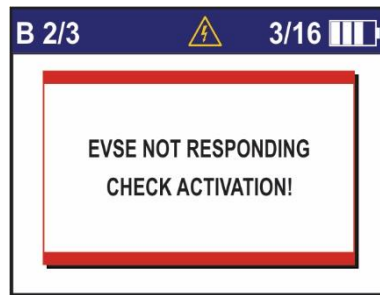

Figure 19: Check activation warning
The measurement starts with simulating the state B (EV connection to EVSE). The CST-322 Tester then waits for charging station to respond and measures a response time $t_{B1 \rightarrow B2}$. If the charging station does not respond in 4 s time, the warning (as presented in Figure 19) is shown to the user to activate the charging station.
The instrument verifies the EVSE operation with the typical EV control pilot circuitry according to standard IEC/EN 61851-1. The instrument applies state B (EV connected) and then waits for charging station to respond. If the charging station does not respond in 4 s time, the warning (as presented in Figure 19) is shown to the user to activate the charging station. If the response is recognized, the instrument then applies the state C (EV connected, ventilation not required, ready to charge). Response time t_{ON} with other parameters is measured. Instrument then simulates state B (EV connected, no ready to charge) again and measure response time t_{OFF} .
The instrument verifies the EVSE operation with the typical EV control pilot circuitry according to standard IEC/EN 61851-1. The instrument applies state B (EV connected) and then waits for charging station to respond. If the charging station does not respond in 4 s time, the warning (as presented in Figure 19) is shown to the user to activate the charging station.
The instrument applies state B (EV connected, not ready to charge) and then waits for charging station to respond. If the charging station does not respond in 4 s time, the warning (as presented in Figure 19) is shown to the user to activate the charging station. If the response is recognized, the instrument then applies the state A again (EV not connected). Response time $t_{A2 \rightarrow A1}$ with other parameters is measured.
The test start in state A (EV not connected) and then immediately simulates the state C (EV connected, ventilation not required, ready to charge). If the charging station does not respond in 4 s time, the warning (as presented in Figure 19) is shown to the user to activate the charging station. If the response is recognized the instrument measures response time t_{ON} together with other parameters. Instrument then simulates state A (EV not connected) again and measure response time t_{OFF} .
The test start in state A (EV not connected) and then immediately simulates the state D (EV connected, ventilation required, ready to charge). If the charging station does not respond in 4 s time, the warning (as presented in Figure 19) is shown to the user to activate the charging station. If the response is recognized the instrument measures response time t_{ON} together with other parameters. Instrument then simulates state A (EV not connected) again and measure response time t_{OFF} .
The instrument applies state B (EV connected, not ready to charge) and then waits for charging station to respond. If the charging station does not respond in 4 s time, the warning (as presented in Figure 19) is shown to the user to activate the charging station. If the response is recognized, the instrument then applies the state C. After 5 s CP Error is simulated and response of charging station is measured.
The instrument applies state B (EV connected, not ready to charge) and then waits for charging station to respond. If the charging station does not respond in 4 s time, the warning (as presented in Figure 19) is shown to the user to activate the charging station. If the response is
The instrument applies state B (EV connected, not ready to charge) and then waits for charging station to respond. If the charging station does not respond in 4 s time, the warning (as presented in Figure 19) is shown to the user to activate the charging station. If the response is recognized, the instrument then applies the state C. After 5 s Diode Error is simulated and response of charging station is measured.
The instrument applies state B (EV connected, not ready to charge) and then waits for charging station to respond. If the charging station does not respond in 4 s time, the warning (as presented in Figure 19) is shown to the user to activate the charging station. If the response is recognized, the instrument then applies the state C for 5 s. RCD Fault current is then generated between L1 and PE terminals. Current amplitude is 30 mARMS for 350 ms. Current shape is sinusoidal (AC). Trip out time t_{RCD} of RCD device is measured and evaluated to limit. State A (EV not connected) is set after the measurement is finished.
The instrument applies state B (EV connected, not ready to charge) and then waits for charging station to respond. If the charging station does not respond in 4 s time, the warning (as presented in Figure 19) is shown to the user to activate the charging station. If the response is recognized, the instrument then applies the state C for 5 s. RCD Fault current is then generated between L1 and PE terminals. Current amplitude is 60 mARMS for 350 ms. Current shape is pure DC. Trip out time t_{RCD} of RCD device is measured and evaluated to limit. State A (EV not connected) is set after the measurement is finished.
The instrument applies state B (EV connected, not ready to charge) and then waits for charging station to respond. If the charging station does not respond in 4 s time, the warning (as presented in Figure 19) is shown to the user to activate the charging station. If the response is recognized, the instrument then applies the state C for 5 s. RCD Fault current is then generated between L1 and PE terminals. Current amplitude is 6 mARMS for 11.0 s. Current shape is pure DC. Trip out time t_{RCD} of RDC-DD device is measured and evaluated to limit. State A (EV not connected) is set after the measurement is finished.
Slight hysteresis is generally used to improve the reliability of the EVSE. The instrument is capable of measurement of the hysteresis between B and C states. The measurement starts with simulating the state B where the CST-322 Tester waits for EVSE to respond. If there is no response in 4 s time the warning (as presented in Figure 19) is shown to the user to activate the charging station. The instrument then sequentially decreases the voltage on the CP pilot (moving towards state C) and waits for the EVSE to respond by applying the mains voltage on power output. After the mains voltage is detected the instrument start increasing the voltage on the CP pilot at the rate of 0.01 V/s as defined in standard IEC/EN 61851-1 (moving towards state B again). When the instrument detects the mains voltage disconnection, CP voltage is measured and memorized as upper transition voltage $U_{C \rightarrow B}$. Now the instrument starts decreasing the CP voltage at a rate of 0.01 V/s (moving towards state C again). After the mains power voltage is detected the CP voltage is measured and memorized as the lower transition voltage $U_{B \rightarrow C}$. Hysteresis voltage $HYST_{B/C}$ is calculated as a difference between upper and lower transition voltages. After calculation is done the instruments set state A again (EV not connected).